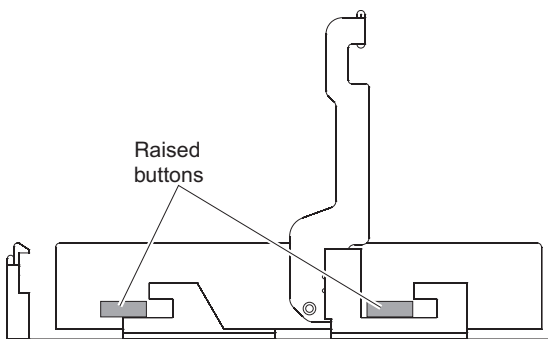

Figure 70. Aligning the drive
- b. Align the two raised buttons on each side over the matching gap in the drive channel on the drawer, as shown in Figure 70.